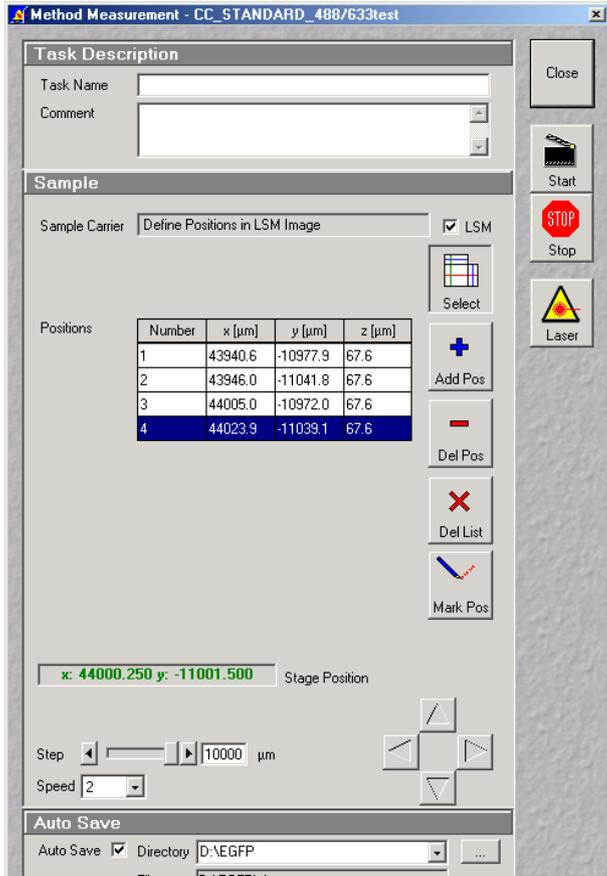
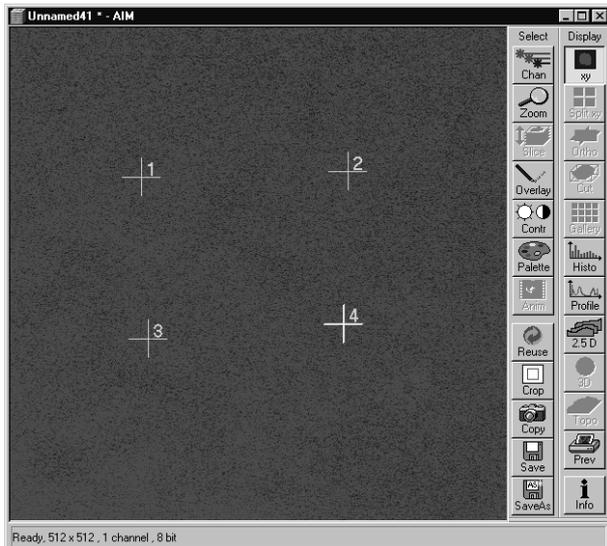

Fig. 4-92 The Method Measurement window in the LSM mode
Fig. 4-93 LSM image of the Rh6G layer with markers for FCS-LSM adjustment
- Mark the points in the LSM image that you want to bleach by positioning the cross and pressing the **Add** button. The marked points will be listed. Click **Mark Pos** to overlay the markers in the LSM image (see Fig. 4-92 and Fig. 4-93).